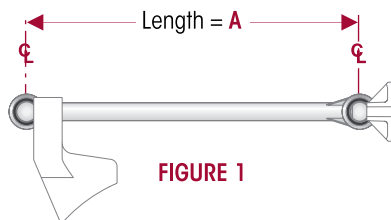

FIGURE 1
- **It is not an ULTRA ROD**, then it is **IMPORTANT** to verify how the torque rod is mounted and the measurement to ensure the proper length is achieved, see shown in Figures 1 through 3.
1. Assemble male spacer end into the base of the female tube end. Check for correct length, see Figures 1 through 3.